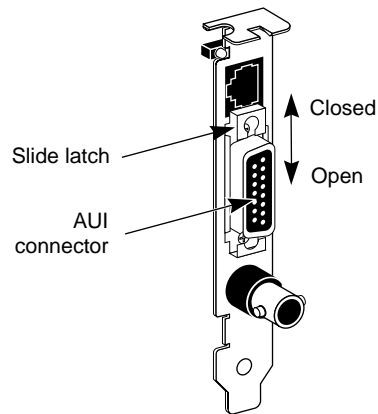

Figure 2-3 Slide Latch
- 1 Locate the adapter's AUI connector and move the slide latch to the open position, as shown in Figure 2-3.